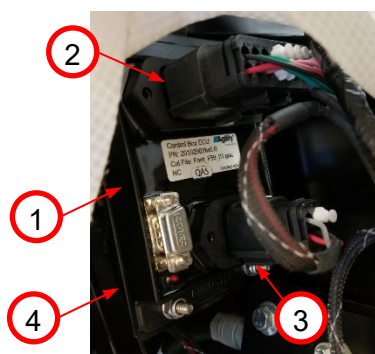

Figure 1:
3. Disconnect cabin harness 16-pin connector (2) and 4-pin connector (3) from ECU (1). *Figure 1*